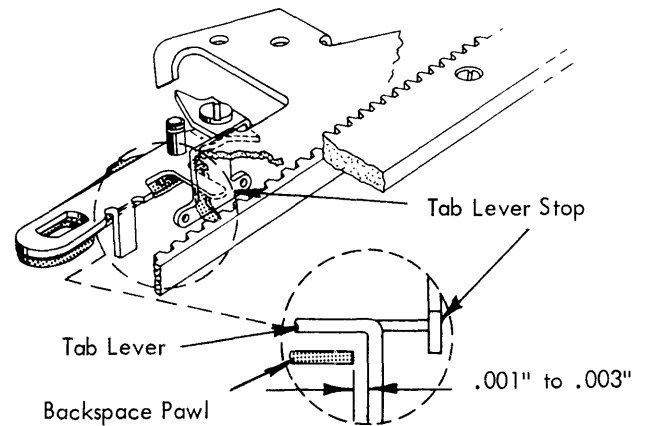

FIGURE 162. Tab Lever Stop
1. Tab Lever Stop - Form the stop on the escapement bracket (Fig. 162) to obtain .001" to .003" clearance between the vertical lug on the tab lever and the backspace pawl when the tab lever is at rest and the backspace pawl is fully seated in its rack.